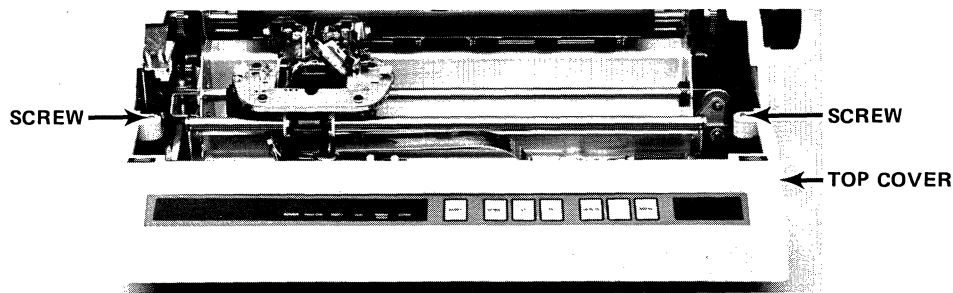

Figure 4-2. TOP COVER MOUNTING SCREWS
- 5) Loosen the two captive screws securing the top cover (Fig. 4-2).